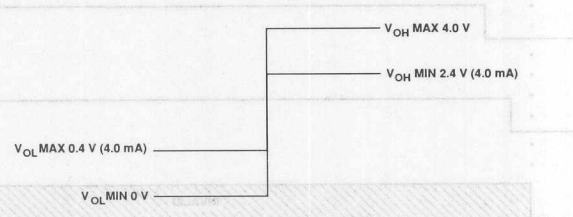

Figure 12. Receive Clock, Data and Byte Sync Driver Levels.
6. The drive levels given are appropriate for Receive Data, Receive Clock, and Byte Sync signals. The Receive Data, Receive Clock, and Byte Sync TTL drivers are push-pull totem pole drivers with a  $25\ \Omega$  series resistor to dampen transmission line reflections (see Figure 12).